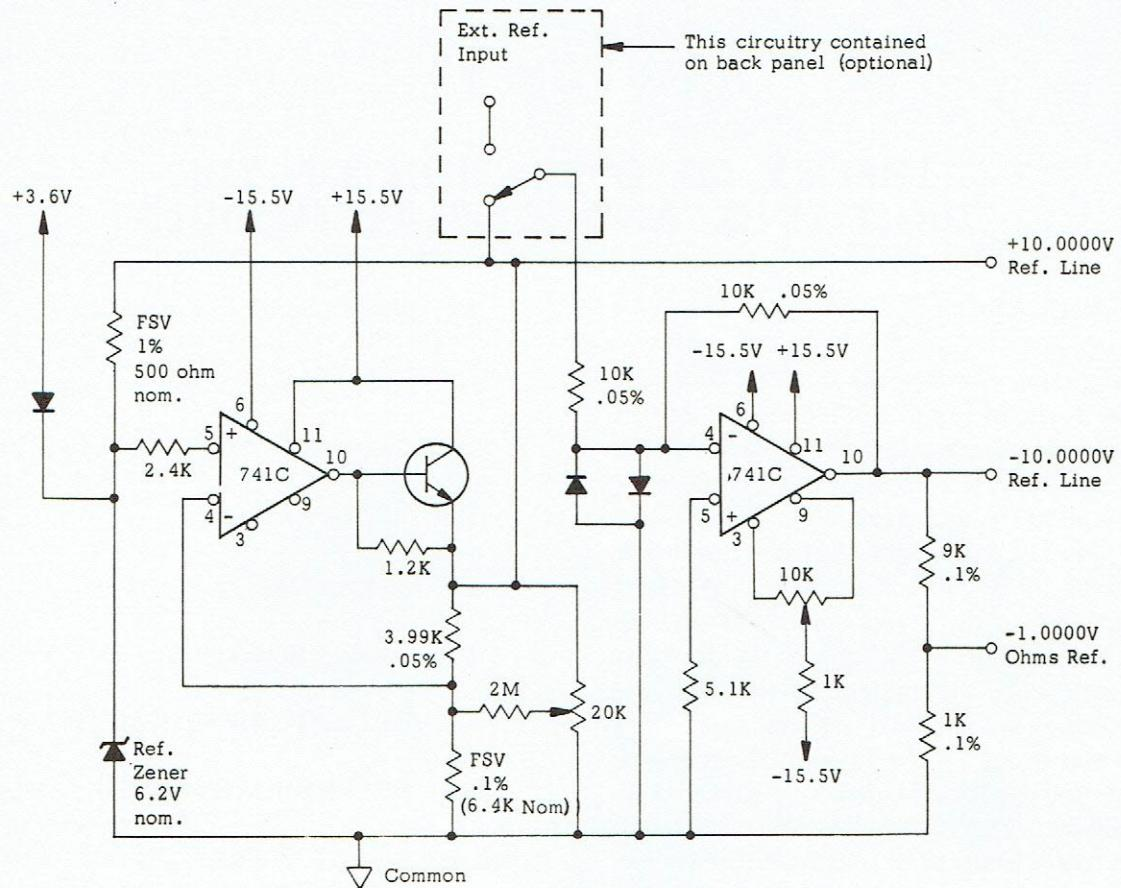

Figure 4B.2 - Reference Supplies
4B.5 The heart of the accuracy and stability of the digital voltmeter lies in the accuracy and stability of the +10V and -10V reference supplies. These supplies, shown in detail in figure 4B.2 and in simplified form in figure 4B.3, are built around two monolithic, integrated-circuit, differential amplifiers, each of which is housed in a separate 14-pin dual in-line package. The primary reference supply is the +10V supply. The negative supply simply inverts the +10V to -10V using an operational amplifier.
**4B.7** The amplifier around which the +10V reference supply is constructed consists of an integrated-circuit differential amplifier connected as a non-inverting, potentiometric feedback amplifier. The feedback network sets the forward closed-loop gain of the amplifier at approximately 1.6. A potentiometer in the feedback circuit provides a "fine" adjustment of the gain for calibration purposes. The reference zener and its biasing resistor are connected between the output of the +10V reference supply and circuit common. The cathode voltage of the reference zener provides the input signal to the amplifier in the +10V reference supply. This circuit is shown in figure 4B.2.